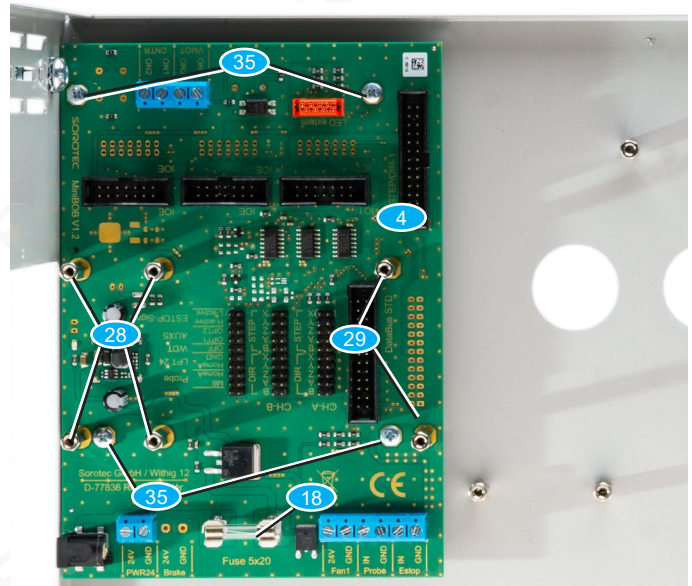

Fig. 9: MC Bob
- Assemble the MC Bob **4** with cylinder head screws **35** and the spacers **28** and **29**, as shown in Fig. 9.